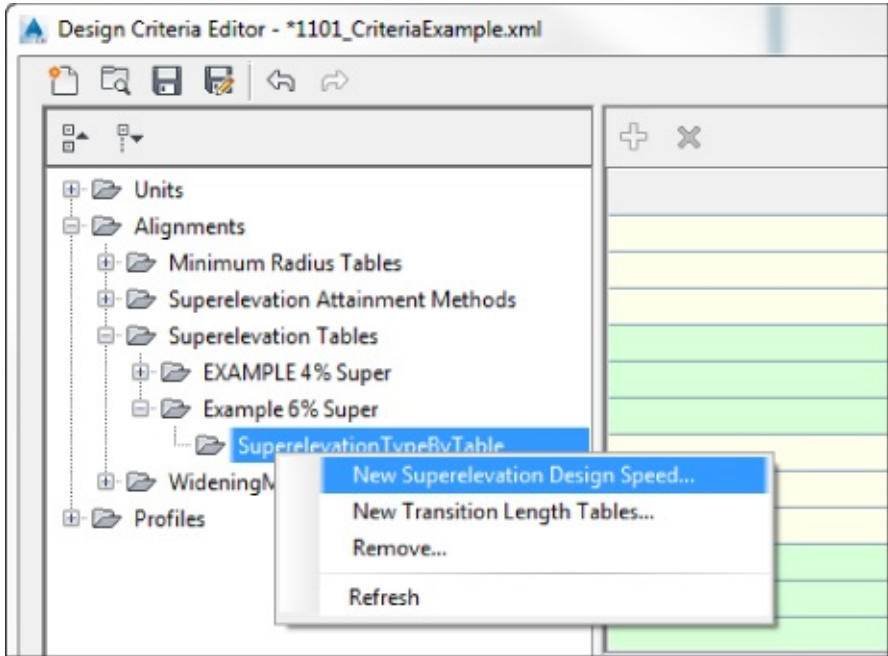

Figure 11.8 Adding a design speed to the design criteria file
9. Expand the new branch, right-click SuperelevationTypeByTable, and select New Superelevation Design Speed, as shown in Figure 11.8.